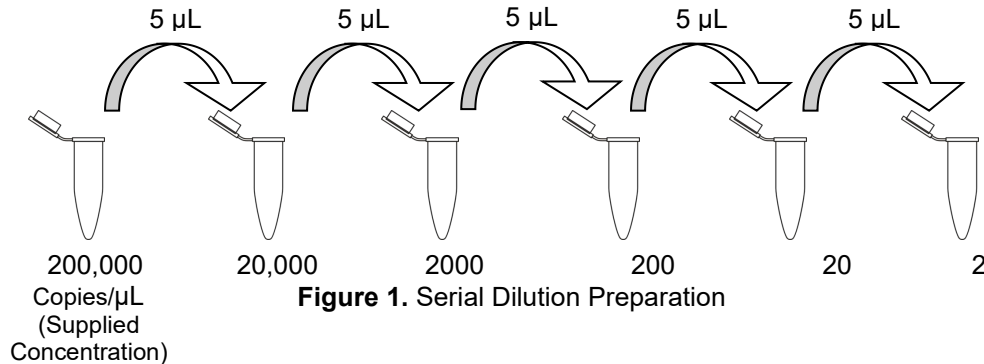

Figure 1. Serial Dilution Preparation
- b. Use 5 μL of the Positive Control Standard supplied with the kit (200,000 copies/ μL) to prepare 5 serial dilutions as outlined in Figure 1.